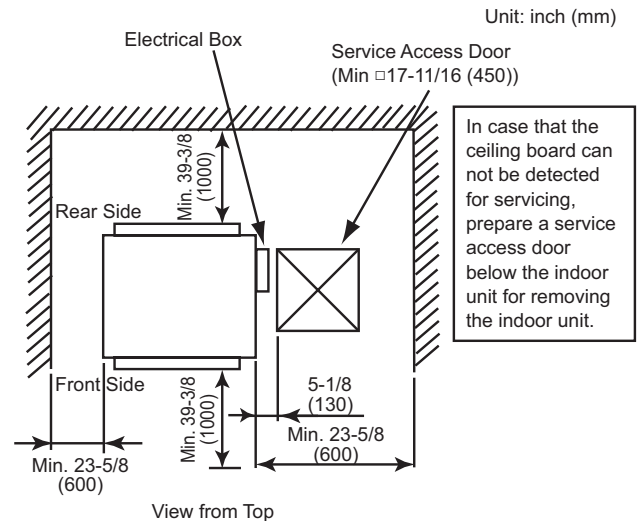

Figure. 4.1 Operation and Installation Space
- (1) Install the indoor unit, allowing for proper clearance for operation and maintenance access, as shown in Figure. 4.1.